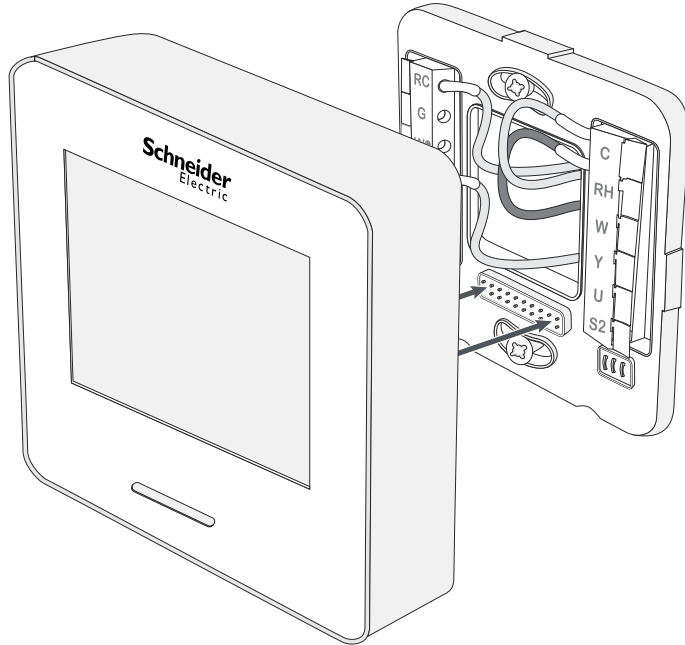

Figure 3. Front to back plate mounting.
11. Attach the front of Wiser Air to the back plate, making sure that the front is oriented correctly so that the terminal pins on the front panel match the pins on the back plate. Do not use excessive force on the Wiser Air as this can damage the terminal pins (Fig. 3).